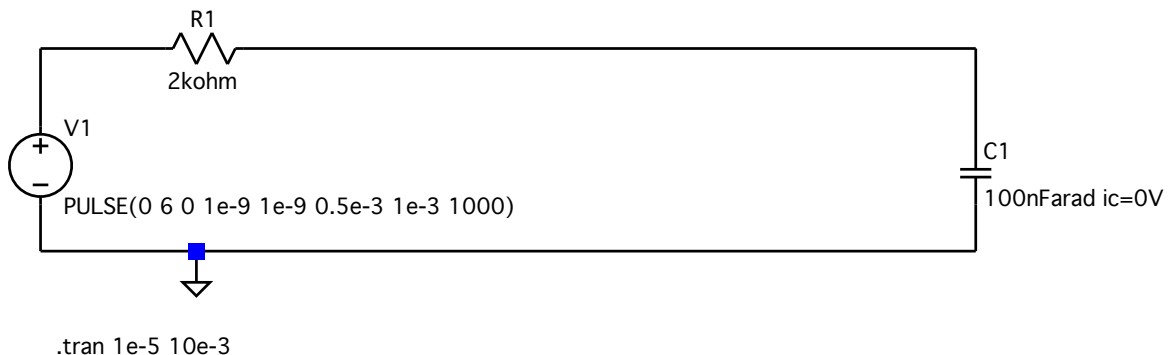
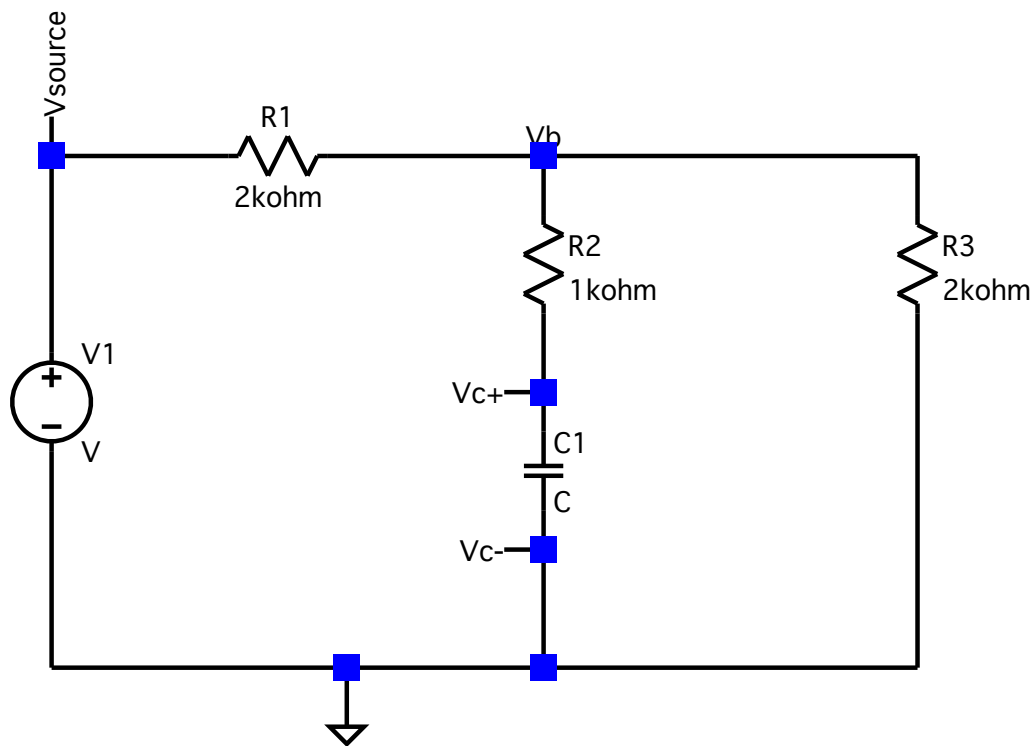

Figure 1 LTSPICE Simulation, Showing Pulsed Voltage Source, Capacitor Initial Condition, and Transient Response Command
Figure 3 Circuit 2, without Voltage or Capacitor Definition
For Spring 2014, this lab portion should be done using the circuit file provided on Blackboard. Figure 1 shows the first circuit for today's lab. For a pulsed voltage source, instead of the DC voltage value enter the PULSE command with the following parameters: PULSE(V1 V2 Tdelay Trise Tfall Ton Tperiod Ncycles)
For the pulsed voltage source circuit of Figure 1, we have an initial voltage (V1) of 0V, a final voltage (V2) of 6V, a time delay (Tdelay) of 0 sec, a pulse rise time (Trise) of 1 ns, a pulse fall time of 1ns, an on interval (Ton) of 0.5 ms, and a period (Tperiod) of 1 ms. I entered 1000 for Ncycles, the number of cycles, but the .tran command discussed below will modify this.
For the capacitor C1 in Figure 1, I have defined an initial condition (ic) of 0V.
1. Load the circuit file LabVII_RC1.cir containing the circuit of Figure 1. Run the simulation.
3. Load the circuit LabVII_RC2.cir from Blackboard. This circuit is shown in Figure 3. Following the guidance given above, set the voltage source to be the same pulsed source as in Figure 1, and set the capacitor to a value of 100nF with 0V initial condition. Add the transient command.
1. Consider the circuit shown in Figure 1 Derive $v_C(t)$, and $v_R(t)$ for both the charging period ($0 < t < 0.5\text{ms}$) and the discharging period ($0.5\text{ms} < t < 1\text{ms}$) in lab report. Both partners may contribute to this derivation.
3. Construct the circuit shown in Figure 1. Use the step function voltage created in 2) as the source.
1. Construct the circuit shown in Figure 3. Use the same voltage source as in Step 2 of 4.1, above.